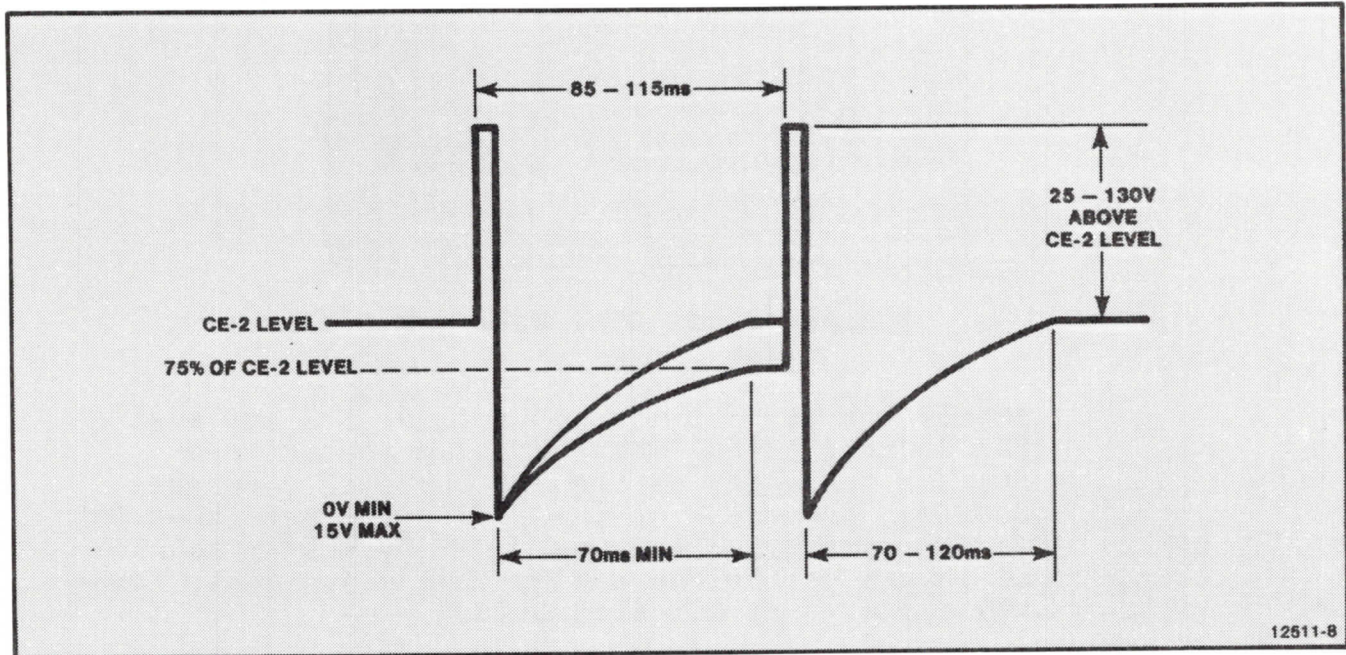

Figure 10-17. CE-2 Waveform.
20. Using the waveform in Figure 10-17, do the following: